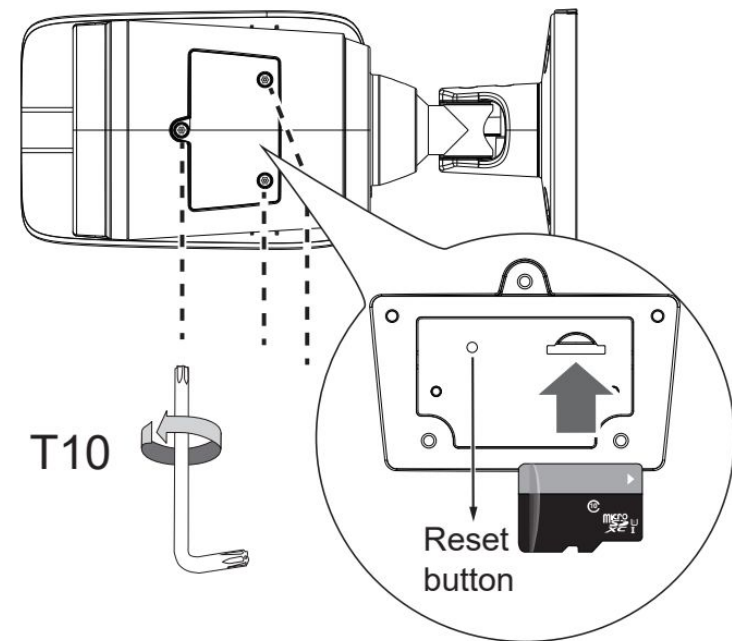

Figure 1-6
Step 1 Use the supplied hex wrench to unscrew the access panel below the camera. Please refer Figure 1-6 for SD card slot and reset location.